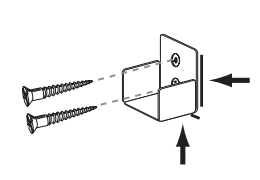

FIG. 4.6
- Remove shelf and place bracket on lines drawn to mark screw hole location. Attach bracket using #8 1-1/2" screws for wall locations and #6 3/4" screws for tower side locations. (Fig. 4.6). Use supplied plastic wall anchors if no stud is present at wall location.